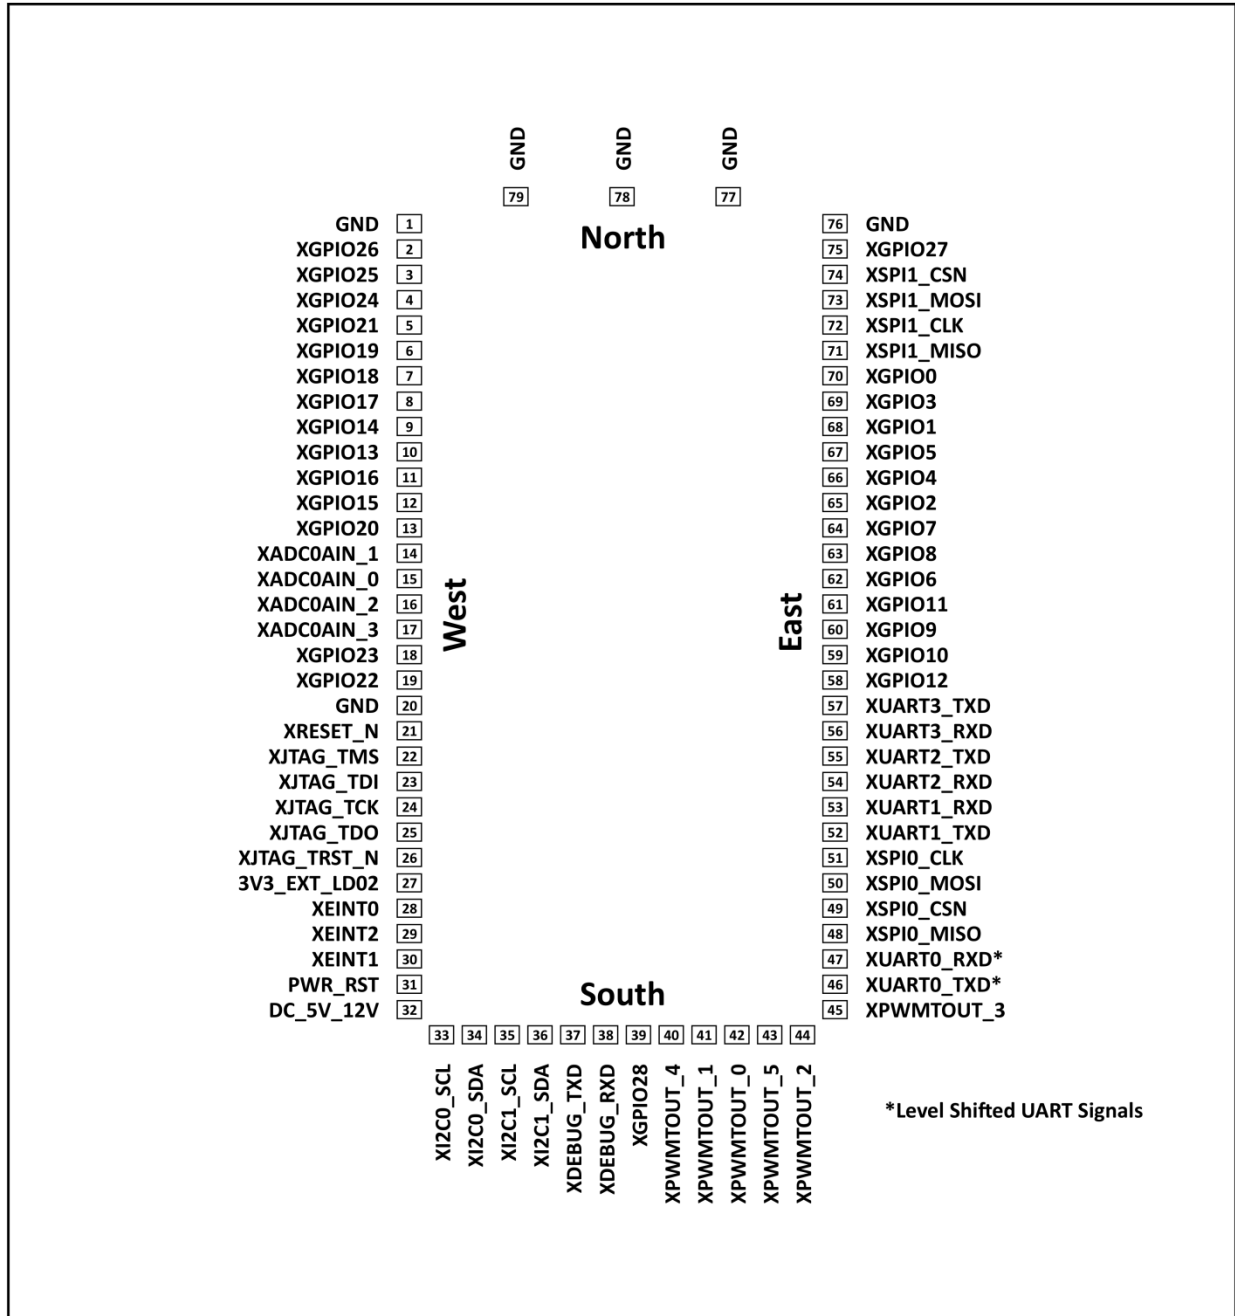

Figure 4. ARTIK 053/053s Module Edge Pinout (Top View)
- **Pad Number** defines the signal pad on the edge of the module. Refer to Figure 4 for pad/signal physical layout.